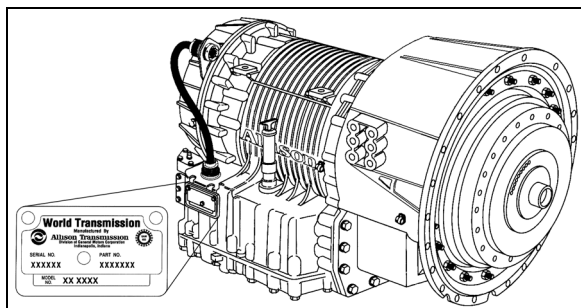

FIGURE 3: ALLISON TRANSMISSION 07076
The transmission identification plate is located on the oil level dipstick side of the transmission (WT) or on transmission, on the vehicle R.H. side (ZF) (Fig. 3 & 4). The identification plate shows the transmission serial number, part number (assembly number), and model number. Use all three numbers when ordering parts.